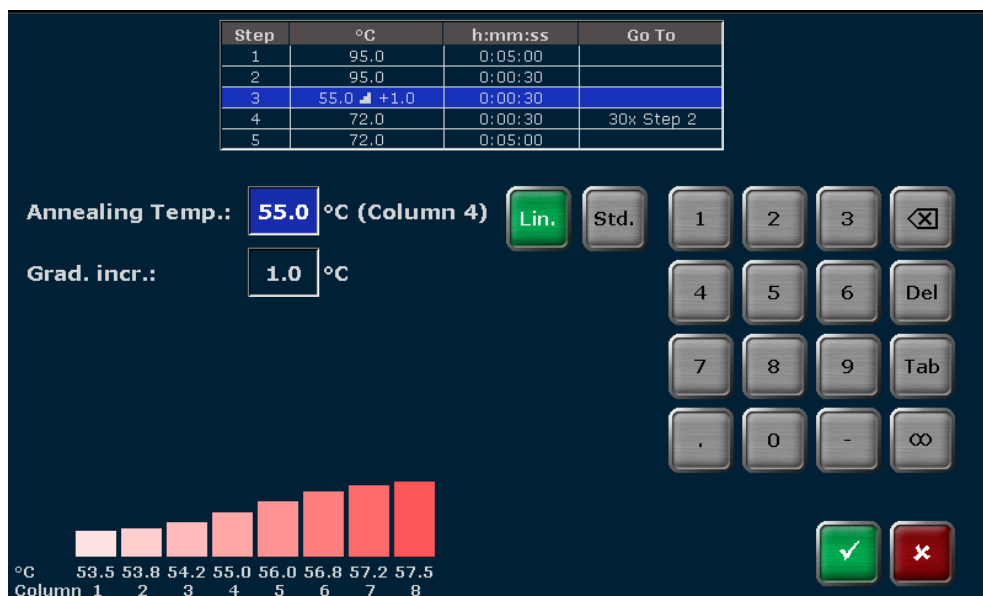

Fig. 34 Linear Gradient Tool screen (Biometra TAdvanced Twin)
To program a gradient using the Linear Gradient Tool, enter the desired annealing temperature (ANNEALING TEMP.) and define a temperature increment (GRAD INCR.) between the individual columns of the sample block. The effective temperatures for all the other columns are automatically calculated and displayed as a bar chart (see Fig. 34).
**Note:** The annealing temperature is set for a specific column in the sample block. For example, the annealing temperature in a 48 well Twinblock corresponds to the temperature in column 4. The column number is indicated in parenthesis next to the corresponding input field (see Fig. 34). When setting a positive increment, the temperature in column 1 is the lowest and the temperature in column 8 is the highest. Use the minus button to enter a negative increment. When a negative value is used, the temperature in column 1 is the highest and the temperature in column 8 is the lowest.